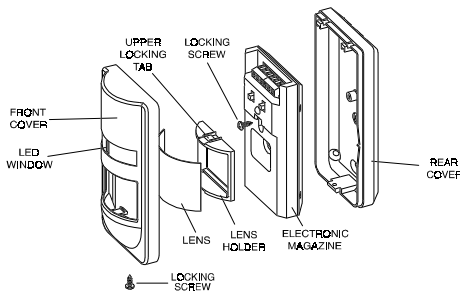

Figure 2. IRIS Construction and Assembly
To change or adjust a lens: insert a small screwdriver into the lens holder upper locking tab and rotate the screwdriver handle upward. The lens holder will release (Fig. 2 and 3).
- B. Remove the electronic magazine from the rear cover by removing the locking screw (see Figure 2).